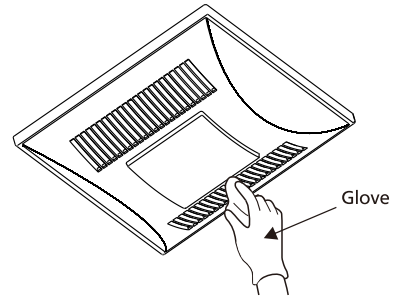

Fig.13
1. Clean grille. (Don't put into water over 140°F (60°C). Use non-abrasive kitchen detergent, wipe dry with clean cloth.) (Fig.13)